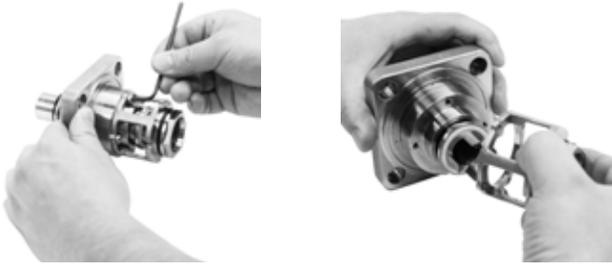

Figure 13: Removal of the PEV Plug Housing
- Using a hex wrench remove the four bolts holding the capacity plug housing in place illustrated in Figure 13.